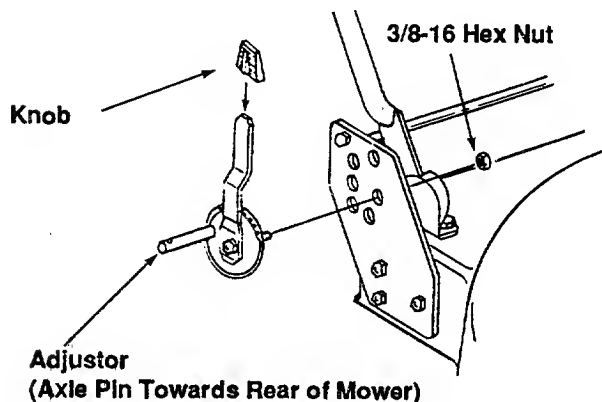

FIGURE 8B.
1. Attach the rear height adjustors to the angled holes in brackets as shown. See figure 8B. Secure with 3/8-16 hex nuts.